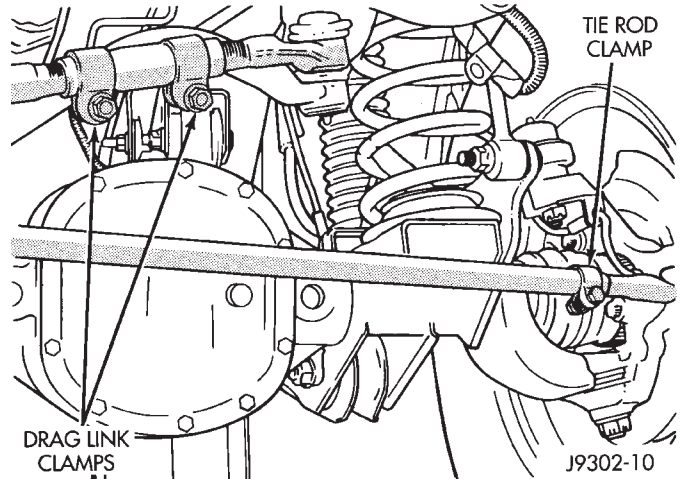

Fig. 4 Tie Rod/Drag Link Clamp Bolt
- (1) If necessary, install the tie rod ends in the tube. Position the tie rod clamp (Fig. 4) and tighten to:
- (2) Install the tie rod on the drag link and steering knuckle. Install the retaining nuts.
- (3) Tighten the ball stud nut on the steering knuckle to 47 N·m (35 ft. lbs.). Tighten the ball stud nut to drag link to 75 N·m (55 ft. lbs.) torque. Install new cotter pins and bend end 60°.